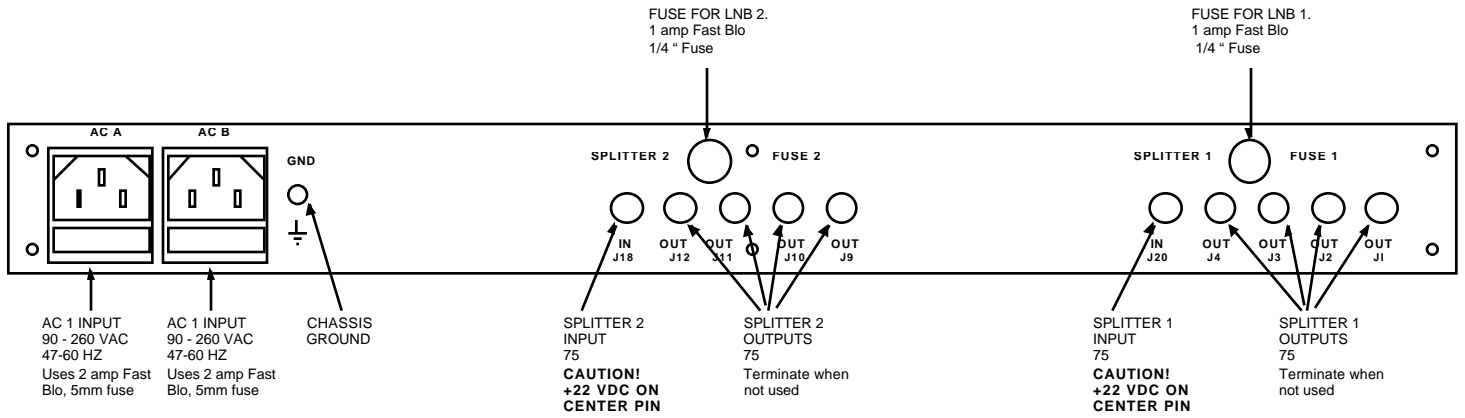

FIGURE 2.1 1584-25 REAR PANEL
2.1 Mechanical - The 1584-25 consists of one RF printed circuit board (PCB) housed in a 1 RU (1 3/4 inch high) by 12 inch deep chassis. Redundant, switching, +24 VDC power supplies with the DC output diode OR'd provide redundant power for the internal and external amplifiers and LEDs. Connectors are type F, female for the RF connections. The 1584-25 can be secured to a rack using the 4 holes on the front panel. Figure 2.1 shows how the 1584-25 is assembled. J28 and J26 connect DC Power to the fuses as shown and J30 and J29 connect the DC voltage from the power supplies to the PCB as shown.
The input and output connectors on the rear panel are shown in Figure 2.1.